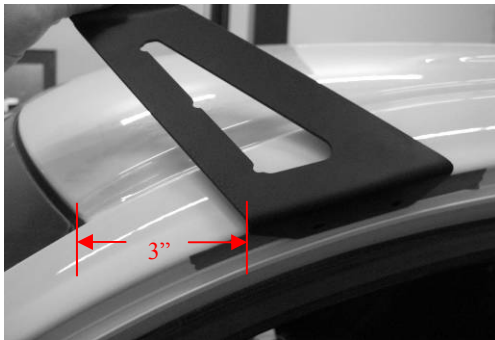

Figure 1
5. Place tape where bracket will be mounted and mark drill holes with a marker. See **Figure 1** for bracket location.